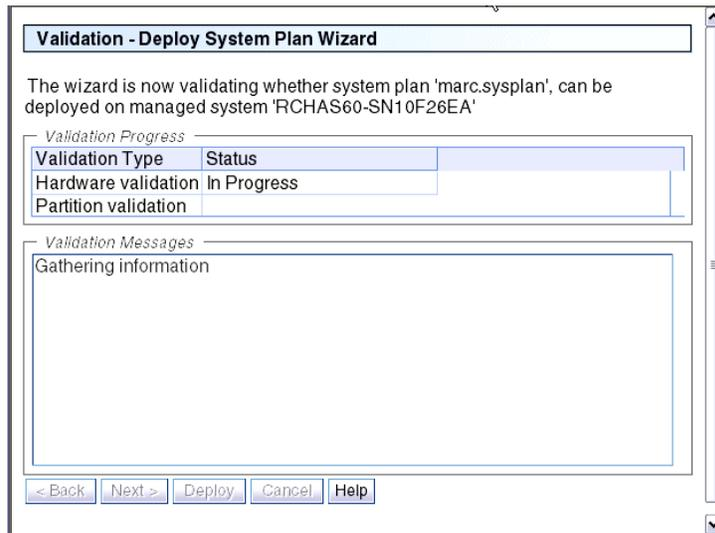

Figure 4-21 Deployment validation in progress
- Figure 4-21 shows you the validation progress. When this has completed, you can examine all the related messages, those messages that are successful as well as those messages that are unsuccessful. We provide information about the validation types in 4.3.1, “Deployment validation process” on page 151.